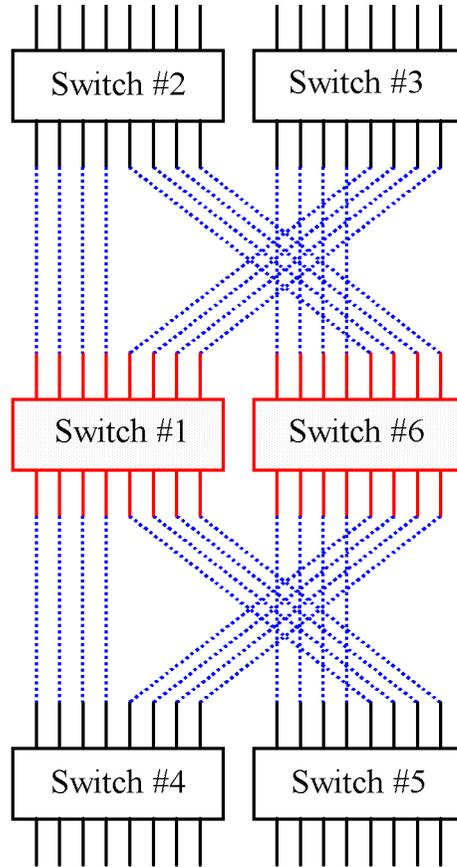

Figure 6. 32-Port High Bandwidth Configuration
Figure 6 is a logical representation of six 16-port Compaq Fibre Channel switches configured as an integrated 32-Port high bandwidth switch.
**NOTE:** Figure 6 is a logical representation of the switches in this configuration. The following table lists the physical ISL cables with the source and destination port for the 32-Port high bandwidth configuration.